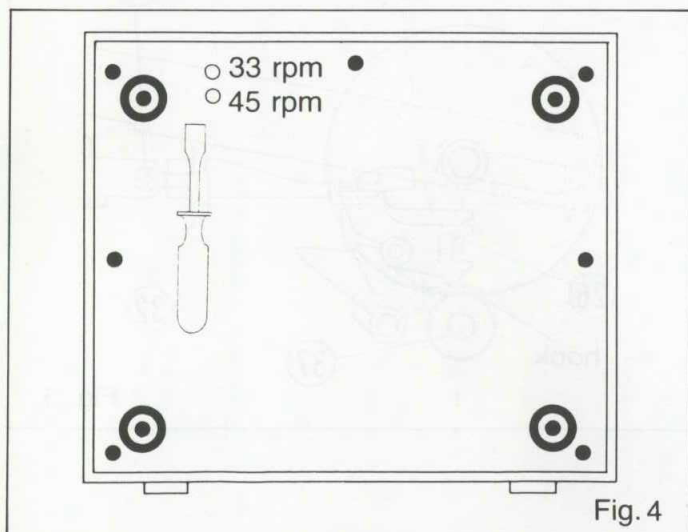

Fig. 4
- 1) Set Speed Button (3) to 45 rpm position.
- 2) Set the stroboscopic disc on Turntable (39).
- 3) Turn the adjusting VR (VR201, VR202) located in Bottom Lid (5) of the unit with the flat-blade screwdriver so that the strobo pattern becomes stationary (Fig. 4).
- 4) After setting Speed Button (3) to 33, repeat the above adjustment.